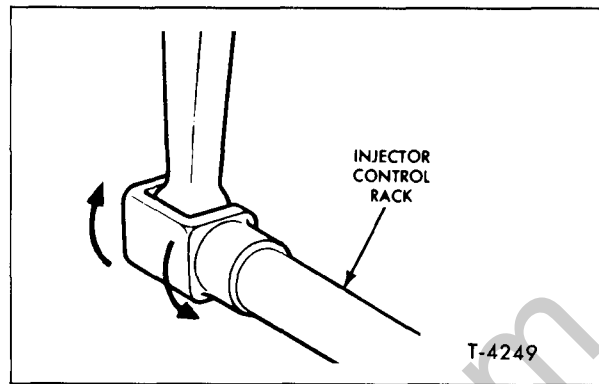

Figure 12—Checking Rotating Movement of Injector Rack
- (1) Move the speed control lever back and forth a few times and note a "rotating" movement of the injector control rack (fig. 12) when the speed control lever is moved to the maximum speed position.
NOTE: When the settings are correct the racks of the injectors must be snug and the same tension on the ball end of their respective rack control levers when checked with screwdriver or fingers (figs. 12 and 13).